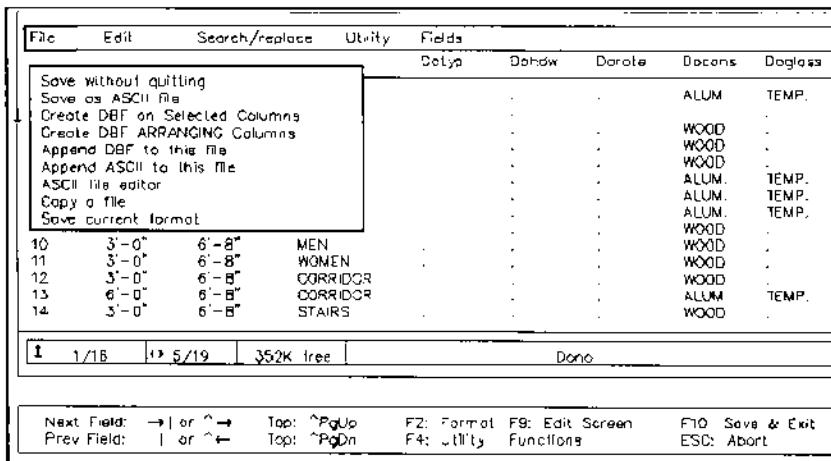

Figure 20.
3. The File pulldown menu options shown in Figure 20 import the attributes into an external database. All the schedule formats are similar, with text and graphic lines inserted on user-defined layers.